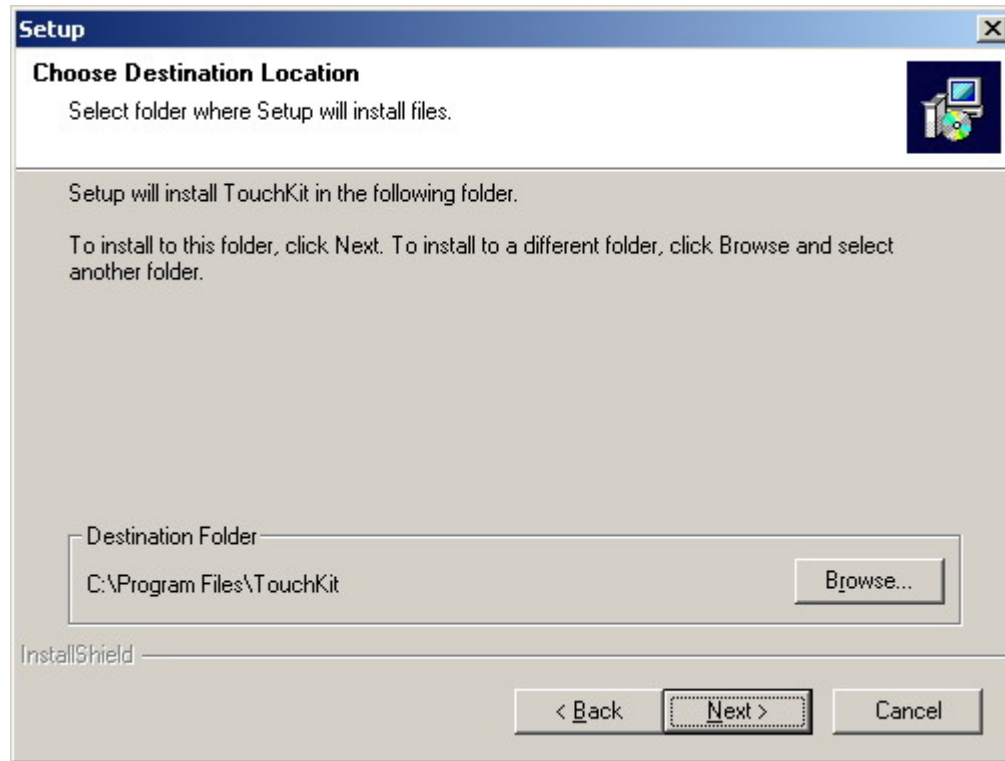

Figure C-7: Controller Installation Directory
Step 12: The user is then prompted to select a file directory in which the touch kit controller is installed (**Figure C-7**). The default directory is “C:\Program Files\TouchKit.” If a different folder must be used, select browse and then select the folder. Once the folder is selected, click **NEXT** to continue.